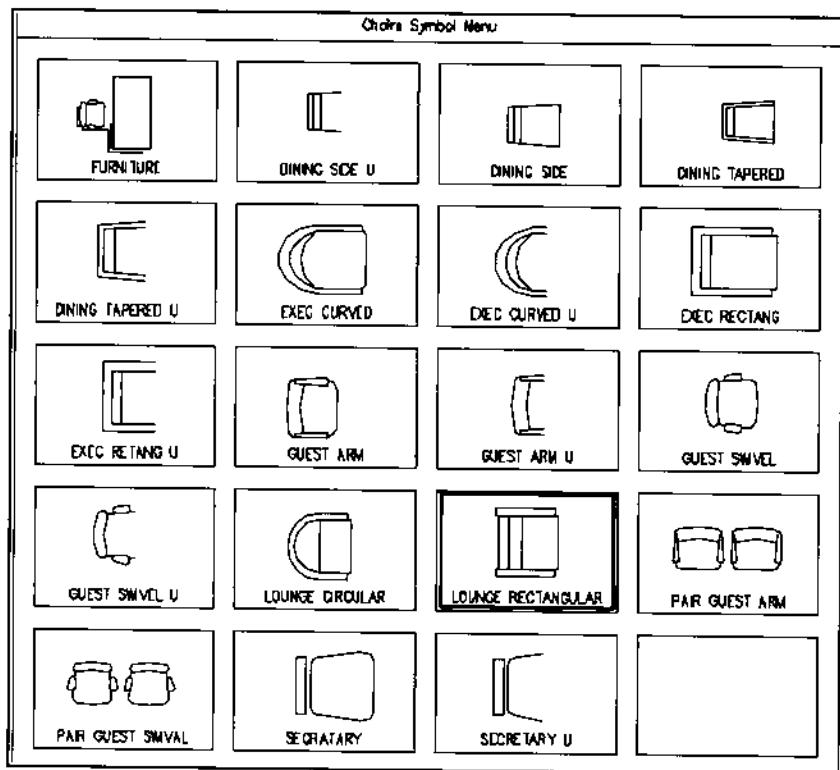

Figure 82.
2. Specify a size of 32" x 30" from the Chairs submenu, or Chair Symbol Menu icon shown in Figure 82.